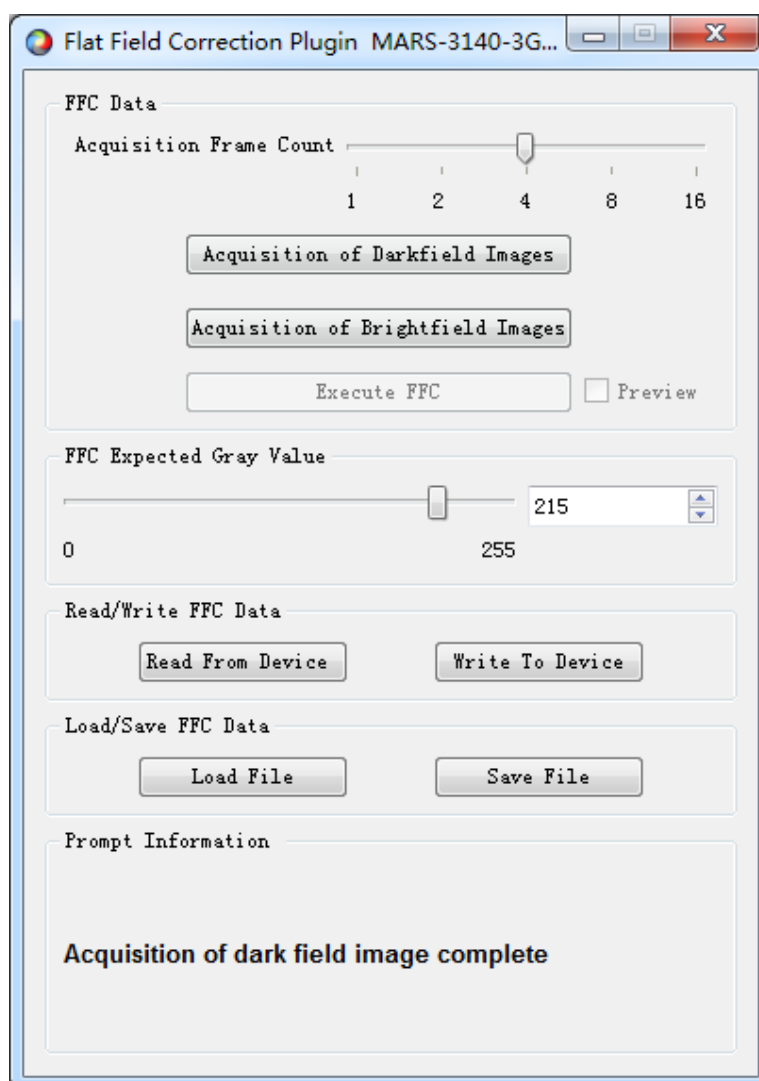

Figure 9-15 The darkfield image meets the expectations
- 5) If the acquired darkfield image meets the expectations, when the flat field correction is executed, the darkfield image is used and a prompt information is given in the prompt box, as shown in Figure 9-15.